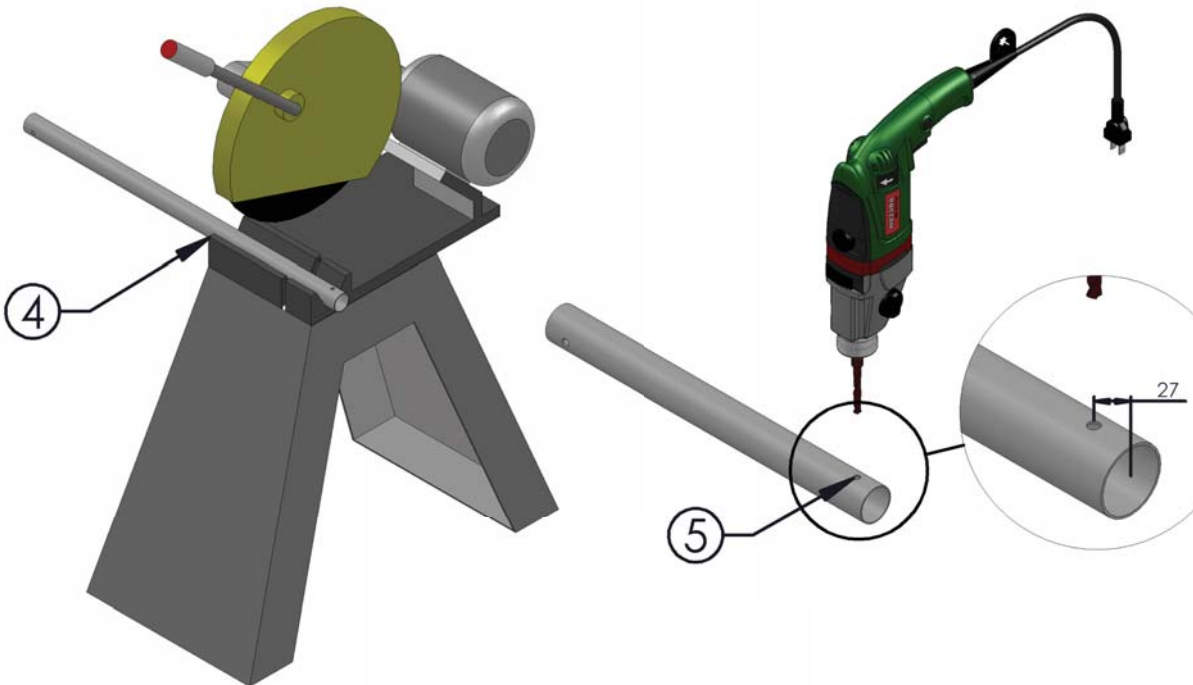

Fig. 5.0
5. Measure, and drill through hole for the locking bolt, as shown in Fig. 5.0.